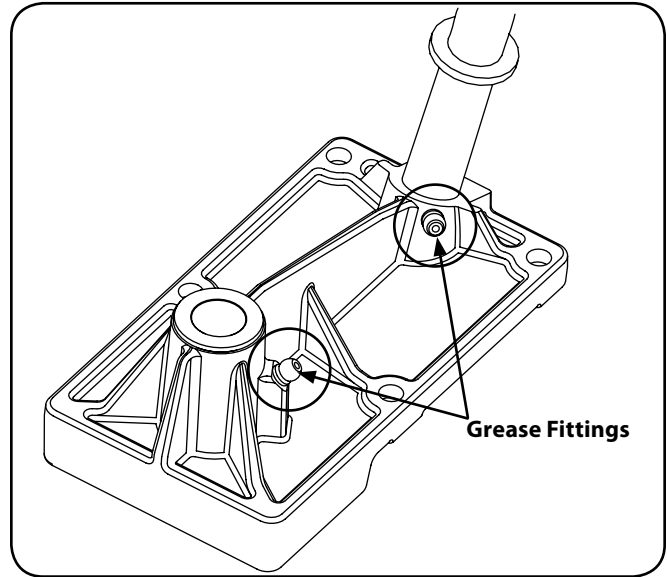

Figure 6-6
2. Locate the grease fitting for the steering housing and steering shaft under the battery. See Figure 6-6.